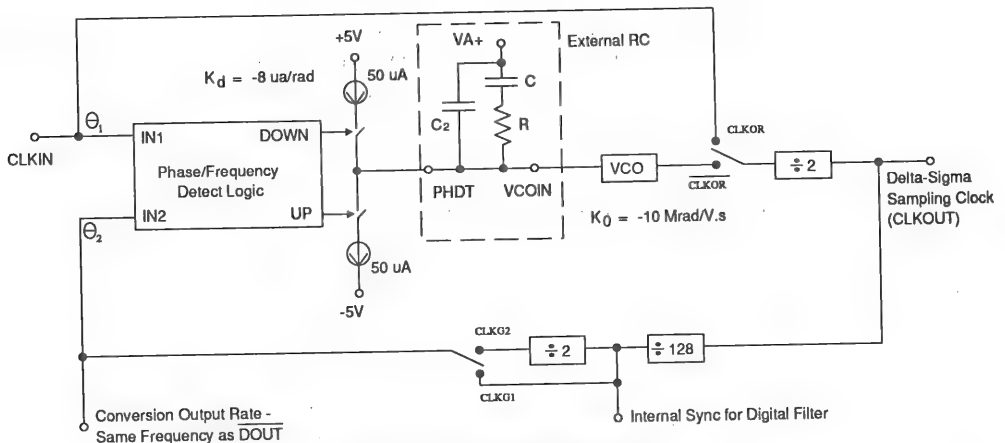

Figure 5. PLL Functional Diagram
A phase-locked loop is included on the CS5317 and is used to generate the requisite high frequency A/D sampling clock. A functional diagram of the PLL is shown in Figure 5. The PLL consists of a phase detector, a filter, a VCO (voltage-controlled oscillator), and a counter/divider. The phase detector inputs are CLKIN ( $\theta_1$ ) and a sub-multiple of the VCO output signal ( $\theta_2$ ). The inputs to the phase detector are positive-edge triggered and therefore the duty cycle of the CLKIN signal is not significant. With this type of phase detector, the lock range of the PLL is equal to the capture range and is independent of the low pass filter. The output of the phase detector is input to an external low pass filter. The filter characteristics are used to determine the transient response of the loop. The output voltage from the filter functions as the input control voltage to the VCO. The output of the VCO is then divided in frequency to provide an input to the phase detector. The clock divider ratio is a function of the PLL mode which has been selected.
output frequency to develop a clock whose frequency is compared to the CLKIN frequency in the phase detector. The binary counter/divider ratio sets the ratio of the VCO frequency to the CLKIN frequency. As illustrated in Figure 5, the VCO output is always divided by two to yield the CLKOUT signal which is identical in frequency to the delta-sigma modulator sampling clock. The CLKOUT signal is then further divided by either 128 in the CLKG1 mode or by 256 in the CLKG2 mode. When the divide by two stage is included, the divider ratio (N) for the PLL in the CLKG1 mode is effectively 256. In the CLKG2 mode the divider ratio (N) is 512.
In some applications additional filtering may be useful to eliminate any jitter associated with the discrete current pulses from the phase detector. In this case a capacitor whose value is no more than 0.1 C can be placed across the RC filter network (C2 in Figure 5).